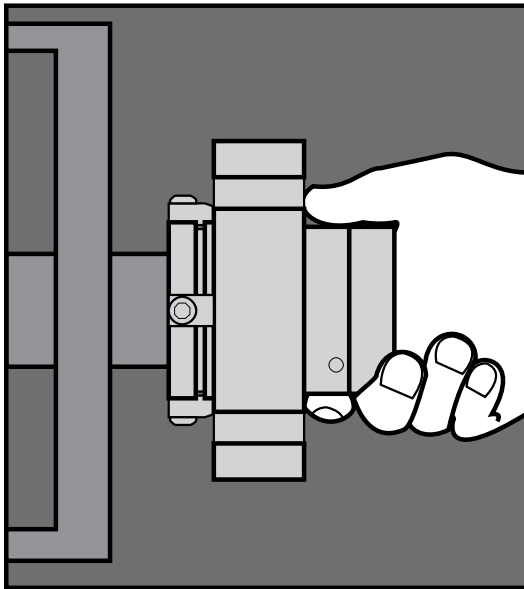

Figure 3
- 2.3 Install the complete Type 55 cartridge assembly onto the shaft or sleeve with the setting devices near the bearing housing. See Figure 3.